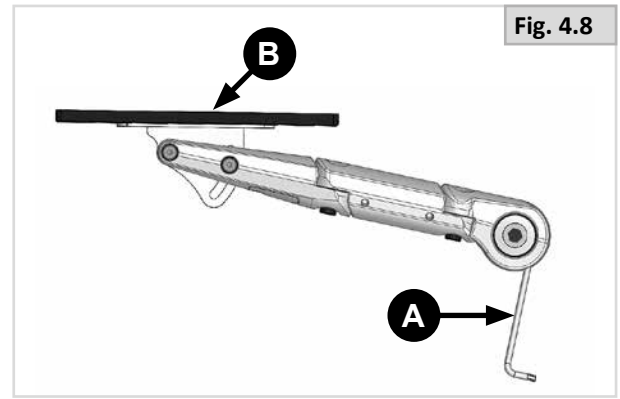

Fig. 4.8
##### Part 1 (Fig. 4.8)
2. Loosen (A) in order to adjust (B).
3. Retighten the screws (A in Fig. 4.8) with a torque of 30Nm.